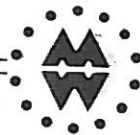

Figure 3.
3. Use tool A to remove the four screws holding the left flywheel cover and remove cover (Figure 3).